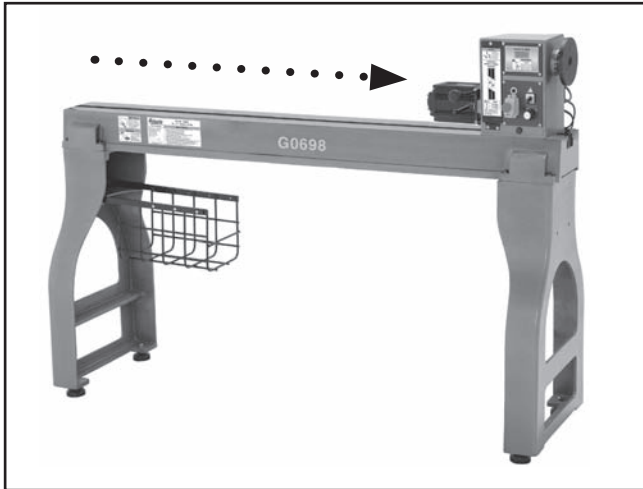

Figure 45. Lathe prepared for outboard turning.
- Loosen the headstock, then move it all the way to the tail end of the lathe bed, as shown in **Figure 45**.